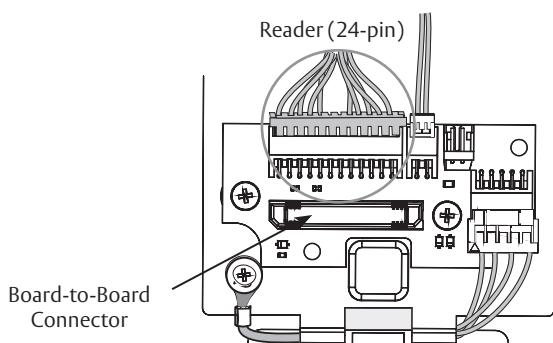

Fig. 22
- h. Secure the following connectors to their respective terminals (Fig. 22):
- Secure 24-pin card reader connector. (Figure 22)